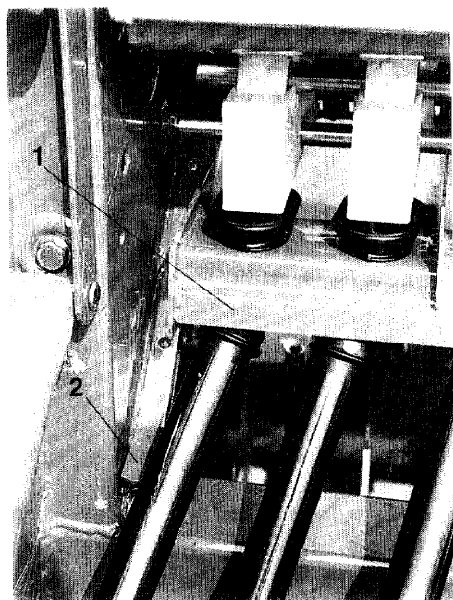
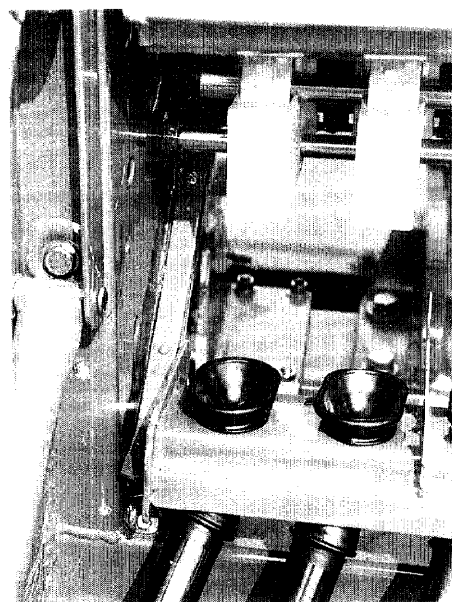

Fig. 36
Fig. 37
- Lower the seed tube fixing rail (Fig. 36/1) as shown in Fig. 37 into the guide rails below. For this the seed tube mounting rail (Fig. 36/1) should be lowered as shown in Fig. 37 in the guide rails. For this briefly lift the lock keys (Fig. 36/2) at the guide rails.